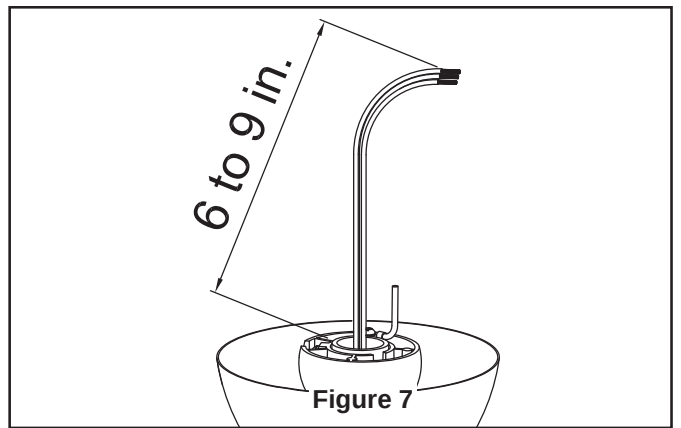

Figure 7
- ☐ **7.** Cut off excess lead wire approximately 6 to 9 inches above top of the downrod. Strip insulation off 1/2 inch from the end of each lead wire. (Figure 7)